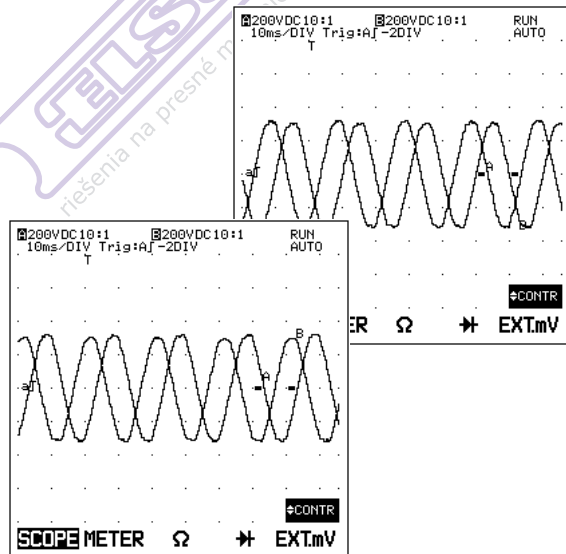

Figure 7-10. Phase Measurements
- ④ Turn circuit breaker on.
- ⑤ Measure connection 1 and connection 2 (see Figure 7-10.)
The upper display in Figure 7-10 shows that phase 2 (INPUT B) follows phase 1 (INPUT A). The lower display shows that phase 3 follows phase 1.